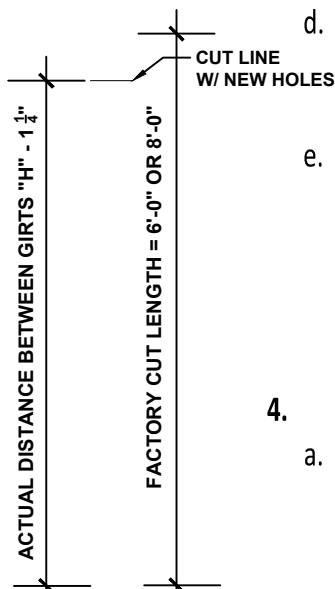

FIGURE 3
- b. If ("H") is less than 6'-1 1/4", deduct 1 1/4" to get the new length of the Vertical Channels. By deducting 1 1/4" you allow for the height of the connection clips. Measure from the end with the tab and cut the end having two holes. See **Figure 3**. For example, if ("H") measures 3'-6", subtract 1 1/4" which leaves 3'-4 3/4". Cut the (2) Vertical Channels to a length of 3'-4 3/4".
- c. Drill (2) 7/16" diameter new connection clip holes in the cut end of the the Vertical Channels. Use the cut off as a template to create new holes.